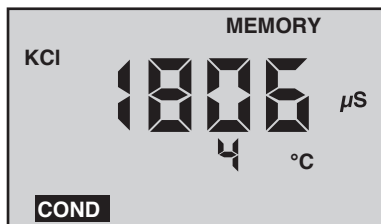

Figure 9
2. “MEMORY” will appear and the temperature display will be momentarily replaced by a number (1-100) showing the position of the record. Figure 9 shows a reading of 1806  $\mu\text{S}$  stored in memory record #4.